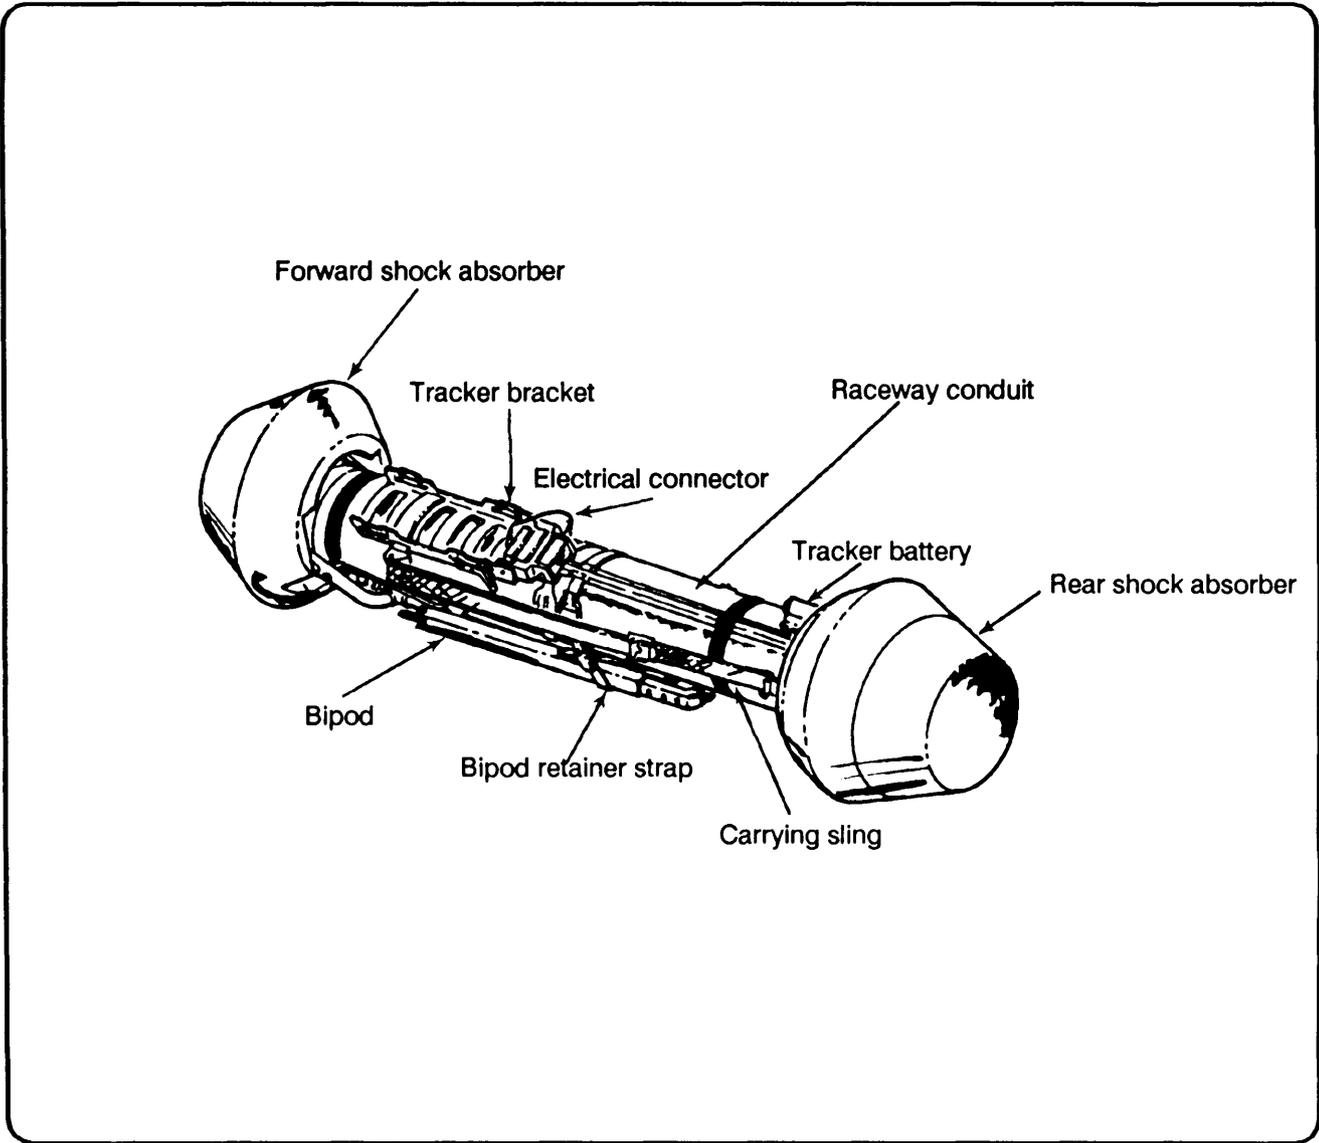

Figure 1-9. M222/MK1, MOD 0, tactical round external components.
**c. Ammunition.** The Dragon ammunition is an expendable component (Figure 1-9), consisting of the missile and launcher. The missile is installed in the launcher at the factory and shipped in a ready-to-fire configuration. The launcher serves as a storage and carrying case for the missile before launch.
(1) The launcher consists of a smoothbore, fiberglass tube, breech/gas pressure generator